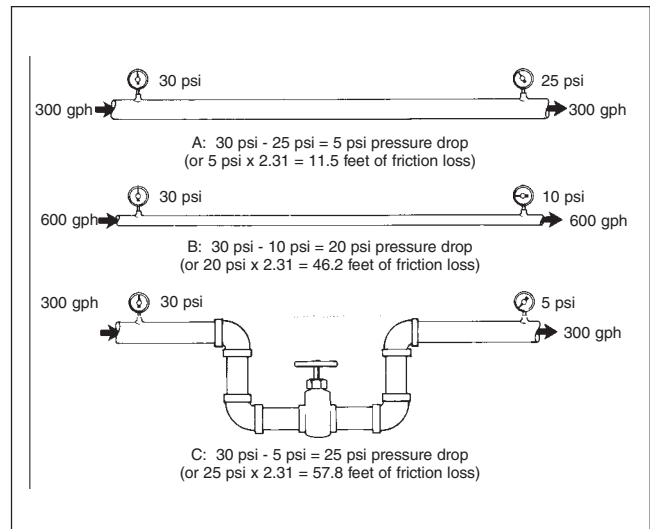

FIGURE 8-G
3. Friction losses increase with the addition of valves and fittings to the system (Figure 8-G).